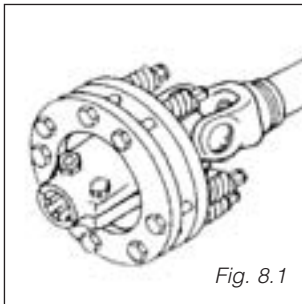

Fig. 8.1
1. When overload occurs, the torque is limited and transmitted constantly during the period of slipping. Short duration torque peaks are limited. After prolonged periods of non-use, the friction clutch must be checked for freeze-up. Release the friction discs and adjust to correct torque before putting into operation. Before seasonal storage, release spring tension. Store the clutch dry. Do not exceed the manufacturer's recommended settings or use a spring that is not recommended. (Fig. 8.1.).